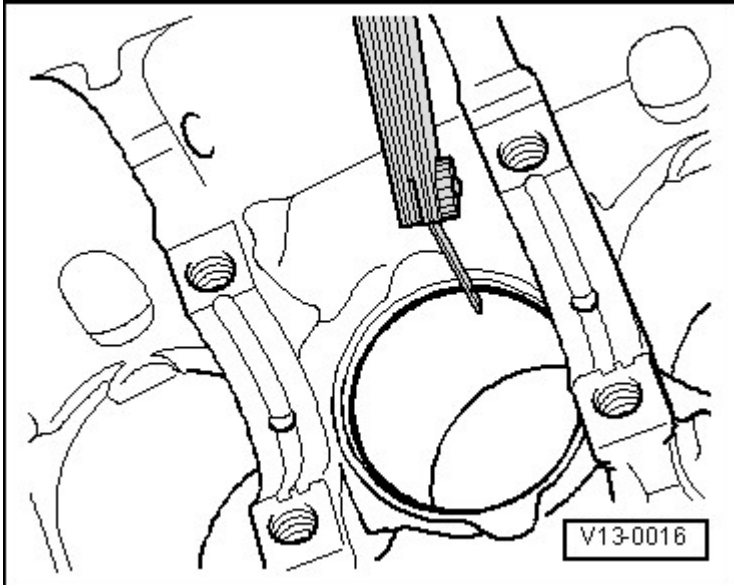

Fig. 13: Checking Piston Ring Gap
- Gap, measuring, refer to **Fig. 13**